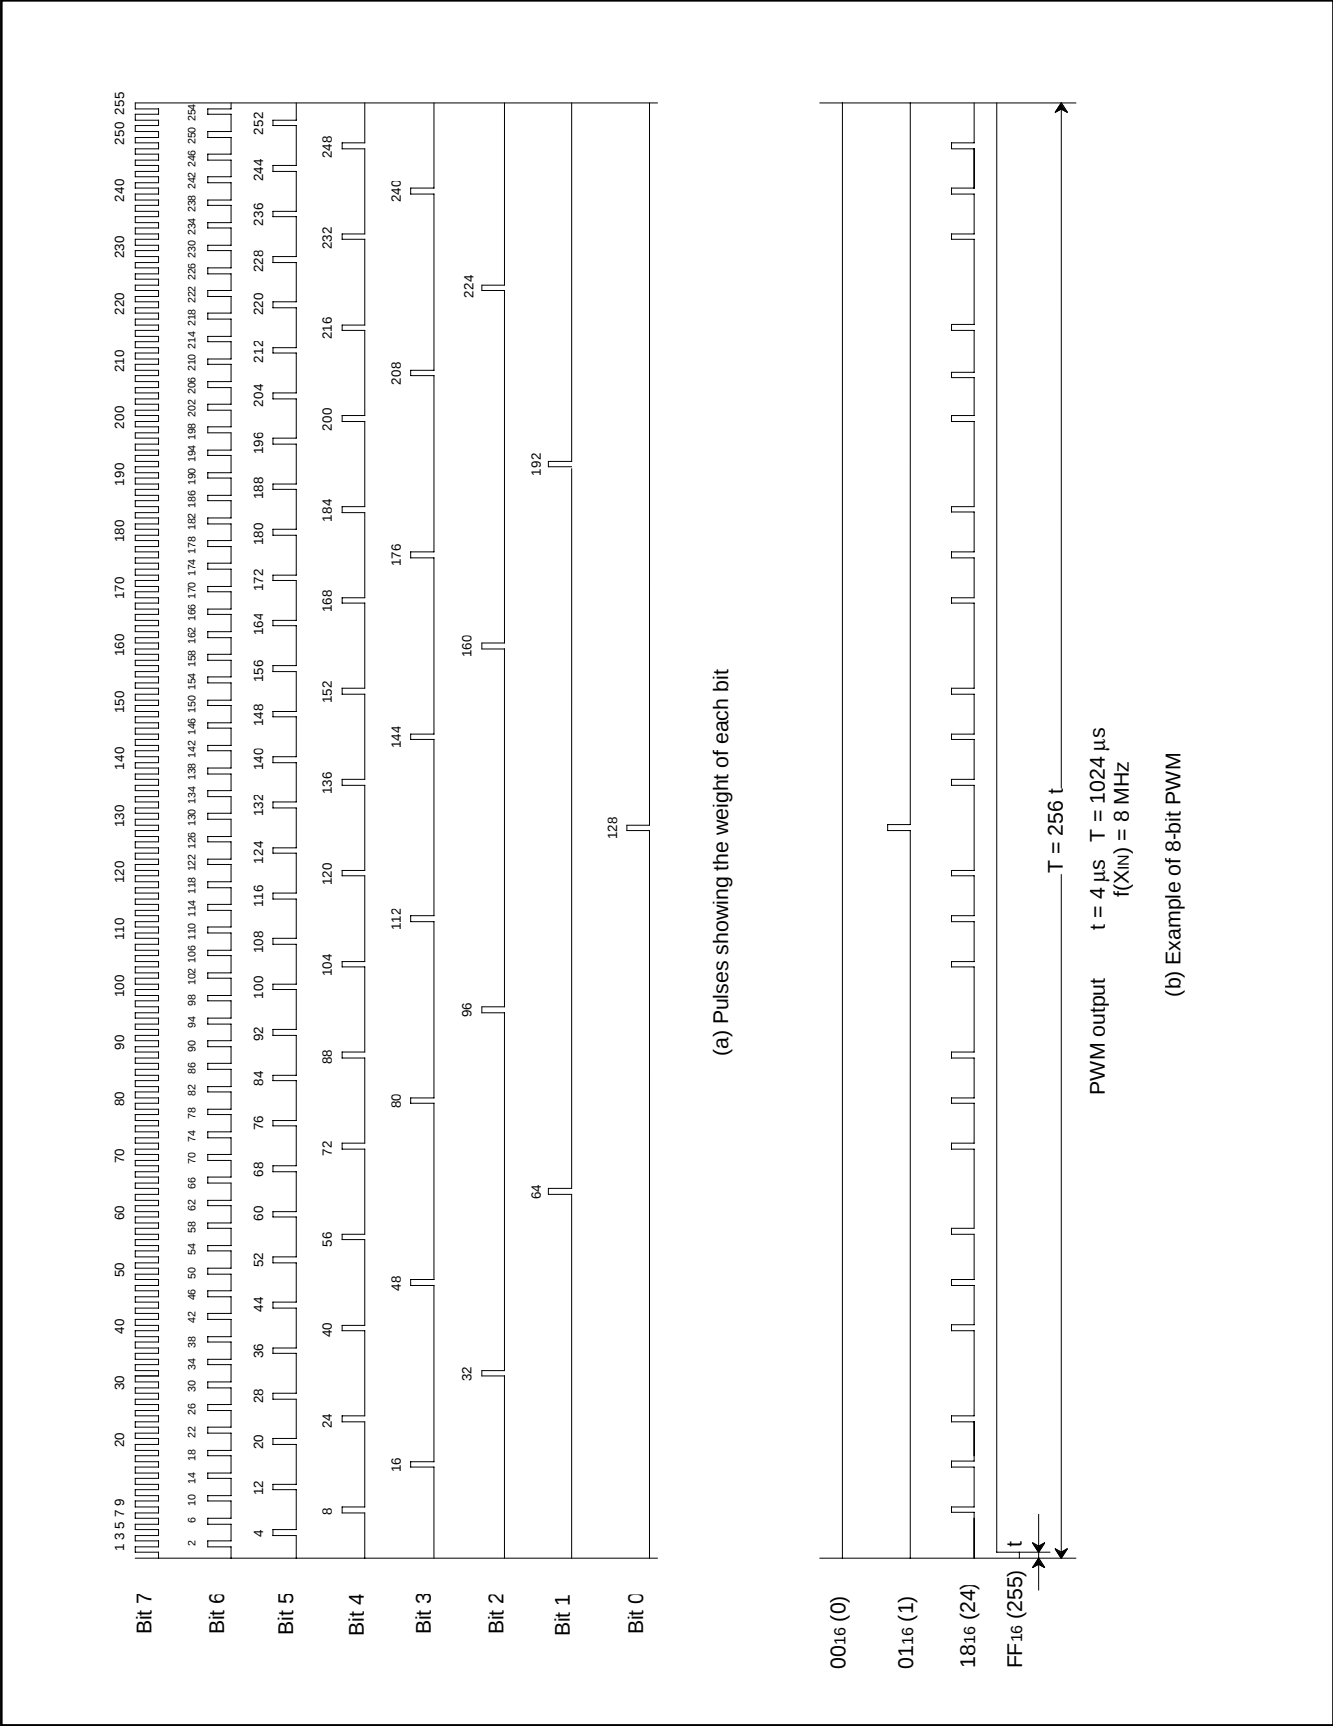

Fig. 8.7.2 PWM Timing
Figure 8.7.2 shows the 8-bit PWM timing. One cycle (T) is composed of $256\ (2^8)$ segments. The 8 kinds of pulses, relative to the weight of each bit (bits 0 to 7), are output inside the circuit during 1 cycle. Refer to Figure 8.7.2 (a). The 8-bit PWM outputs waveform which is the logical sum (OR) of pulses corresponding to the contents of bits 0 to 7 of the 8-bit PWM register. Several examples are shown in Figure 8.7.2 (b). 256 kinds of output (HIGH area: 0/256 to 255/256) are selected by changing the contents of the PWM register. A length of entirely HIGH output cannot be output, i.e. 256/256.